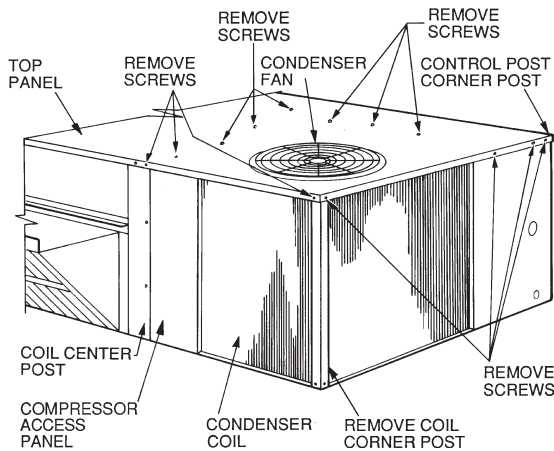
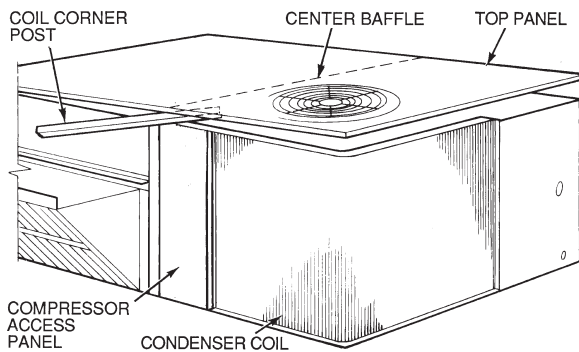

Fig. 8 — Cleaning Condenser Coil
Fig. 9 — Propping Up Top Panel
3. Remove condenser coil corner post. See Fig. 8. To hold top panel open, place coil corner post between top panel and center post. See Fig. 9.